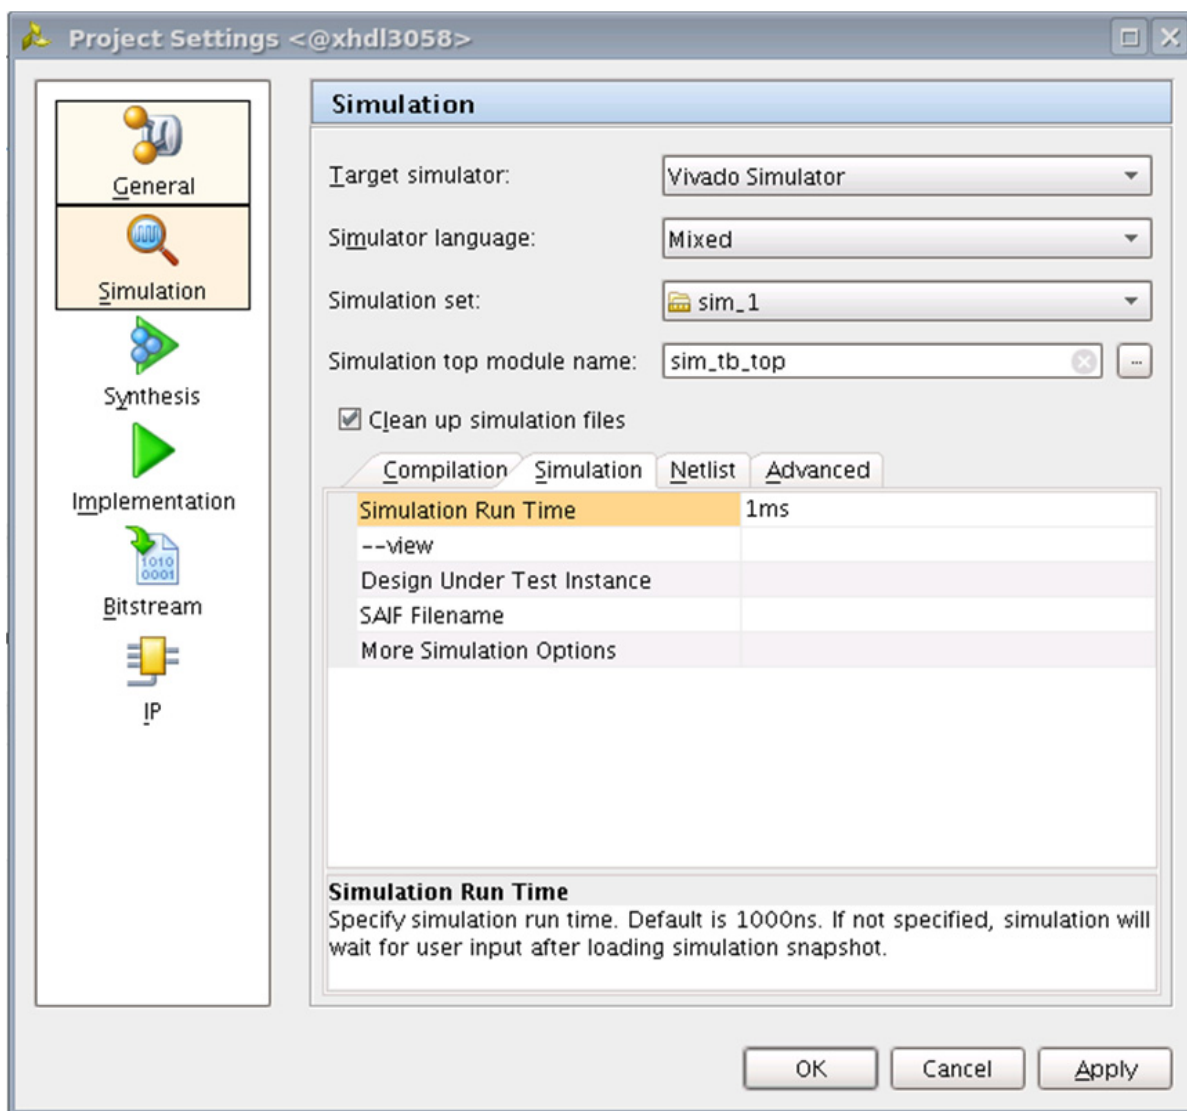

Figure 2-50: Simulation with Vivado Simulator
1. In **Open IP Example Design** Vivado project, under **Flow Navigator**, select **Simulation Settings** (Figure 2-50).
2. Under the **Simulation** tab as shown in Figure 2-50, set the **Simulation Run Time** as 1 ms (there are simulation RTL directives which stop the simulation after certain period of time, which is far less than 1 ms). Apply the settings and select **OK**.
- b. Under the **Simulation** tab, set the **Simulation Run Time** to 1 ms (there are simulation RTL directives which stop the simulation after certain period of time, which is far less than 1 ms), set **More Simulation Options** to **-novopt** as shown in Figure 2-50.